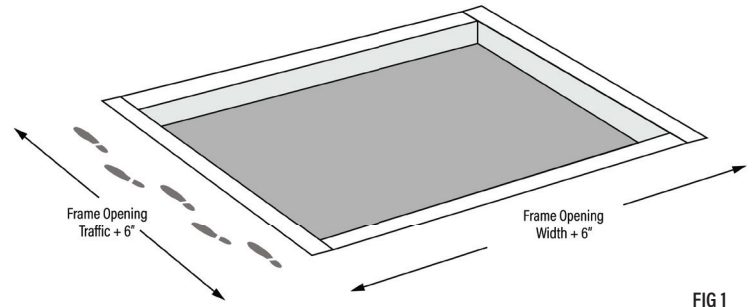

FIG 1
1. Prepare a recess in the concrete flooring (block out) where the grate will be installed. The recess should be at least 1" deeper than the total height of your grate and frame; consult your shop drawing for proper depth. Block out an area 6" wider than the outside dimensions of the frame in both directions. (FIG 1) This will allow 3" on all sides to maneuver the frames into place.
1. A blocked out area of at least 2" (51 mm) deep and 6" (152 mm) larger than the frame dimensions (FIG 1). This allows for positioning of the frame, and space for the mortar to be packed behind the frame to insure it will be held firmly in place.
1. A blocked out area at least 4 1/4 " deep and 6" larger than the frame dimensions must be provided in the floor where the frame is to be installed (FIG 1). This allows for positioning of the frame, and space for the mortar to be packed behind the frame to insure it will be held firmly in place. Complete all plumbing work for drain and trap, if required, before pouring concrete and installing frame.